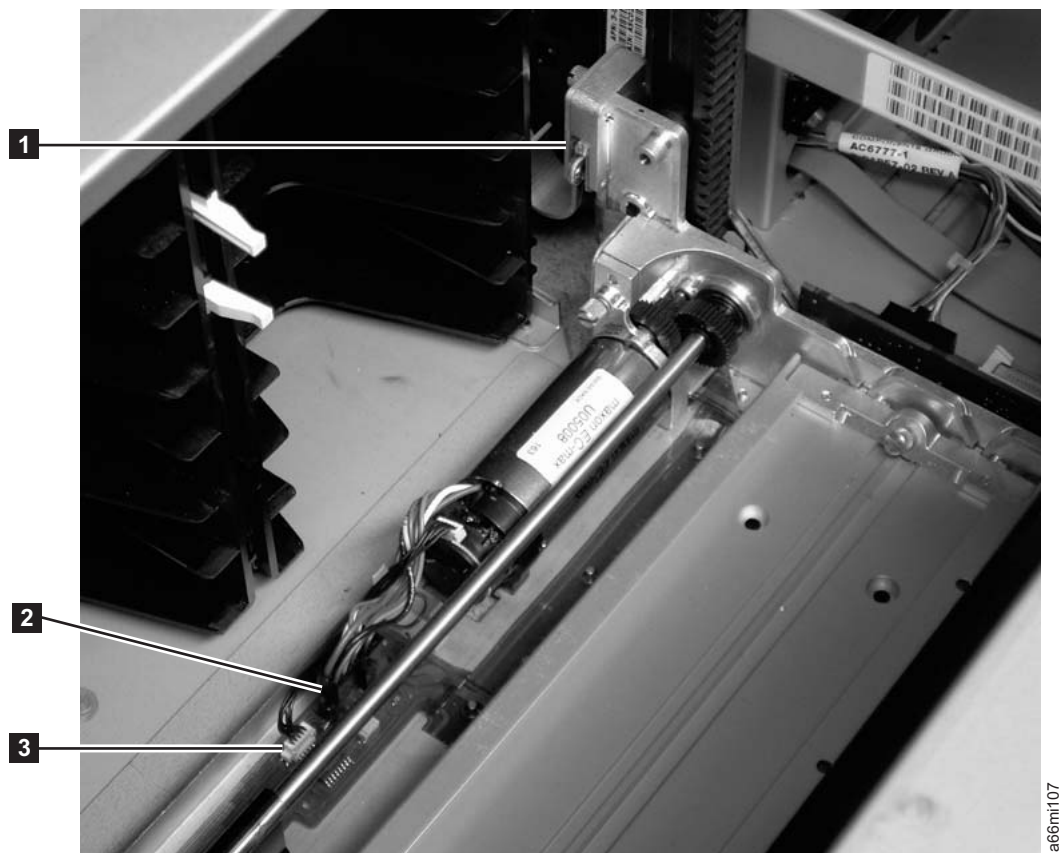

Figure 7-15. Spooler cable connector and original Y-motor assembly connectors
- For the Robot Assembly, see **1**, **2** and **3** in Figure 7-15 on page 7-33.. For the Picker Assembly, see **1** in Figure 7-16 on page 7-34.